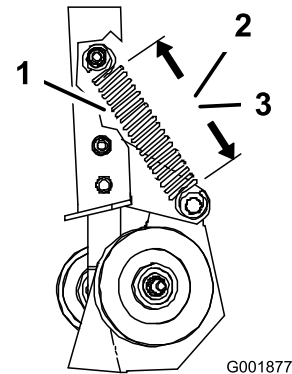
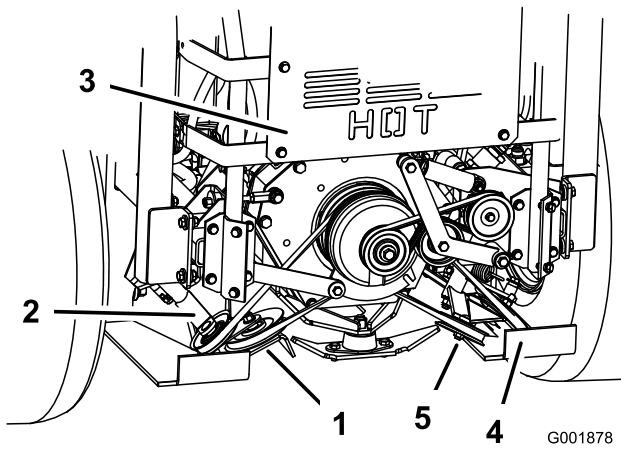

Figure 68
Figure 69
3. Measure the length of the spring. Check to make sure the coils of the spring on the spring-loaded idler pulley measures as listed below (Figure 68 and Figure 69).
- Left spring measurement: $5\text{-}3/4 \pm 1/8$ inch (14.6 ± 0.3 cm) (Figure 68).
- Right spring measurement: $5\text{-}1/2 \pm 1/8$ inch (14.0 ± 0.3 cm) (Figure 68).
4. If the spring does not have the correct measurement, loosen the nut holding the adjustable idler pulley so it can move up and down in the slot (Figure 69).
5. Relieve the pressure on the spring-loaded idler pulley (Figure 69).
6. Position the adjustable pulley lower in the slot and tighten the nut (Figure 69).
7. Check to make sure the coils of the spring on the spring-loaded idler pulley have the correct measurement (Figure 68).